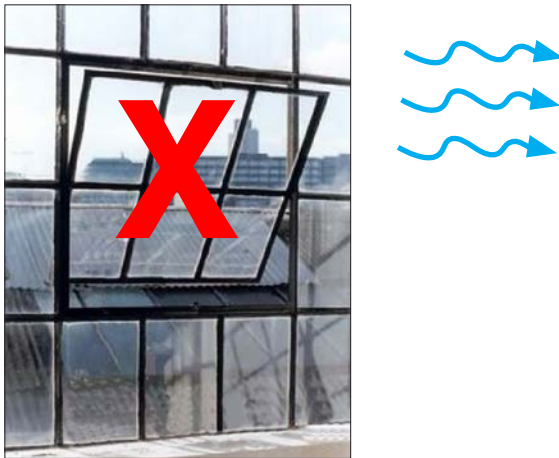

Figure 4.2c: Do not locate testers near open windows.
- Do not operate the tester in a room with uncontrolled temperature and humidity (Figure 4.2c).